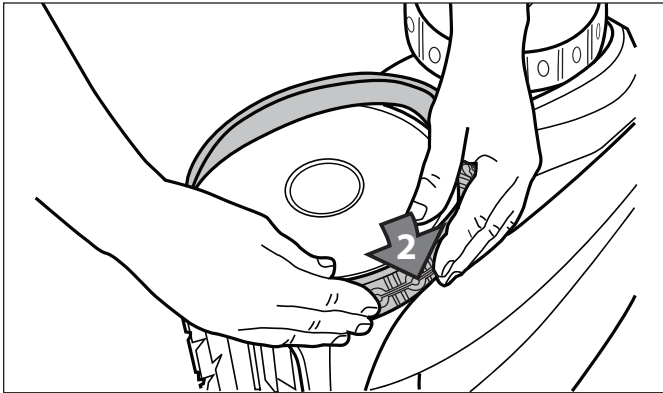

Figure 39. Start on One Side of the Tire
4. Push one side of the tire on to the wheel and fit the rib of the tire in the groove of the wheel as shown in Figure 39.